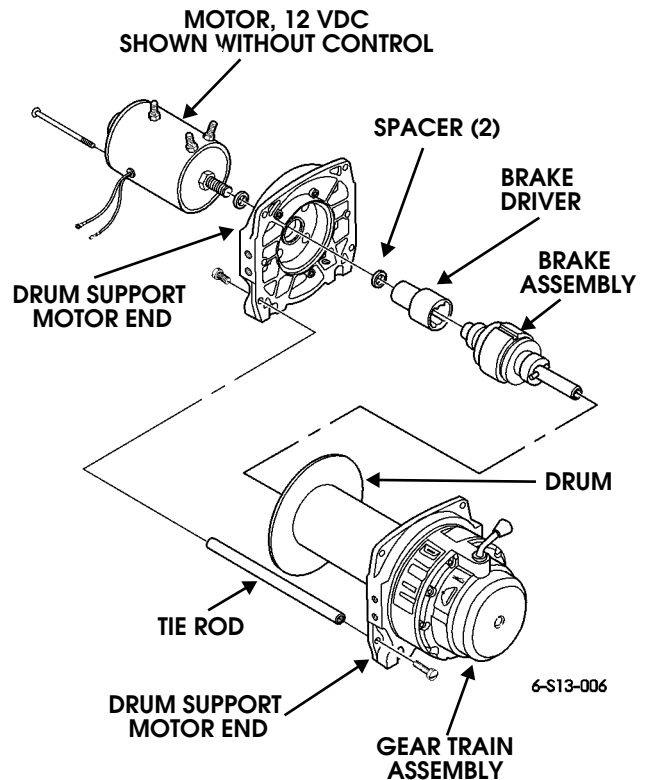

Figure 13-20: Drum Assembly and Gear Train Assembly
20. Install drum assembly on gear train assembly. Rotate drum assembly as needed to engage driveshaft, brake, and output spline (Figure 13-20).